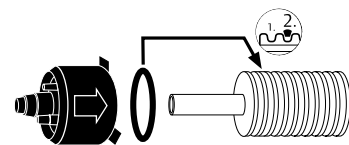

**Figure 4-47: Determining Lengths for Assembly and Pipe Styles**
1. Determine pipe lengths for the pipe assembly, measure the amount of pipe needed for the assembly. Refer to **Figure 4-47**.